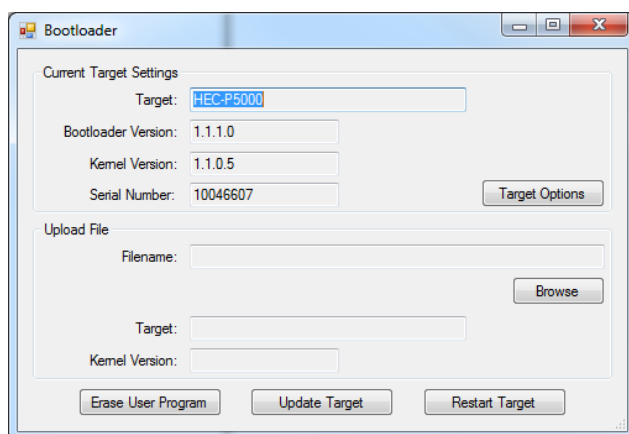

Figure 2.42 - HEC-P5XXX Bootloader
7. Using the menu, click **PROJECT** then **BOOTLOADER**. You may see a window momentarily while EZ LADDER connects to the HEC-P5XXX's bootloader. The Bootloader window will open. See Figure 2.42.